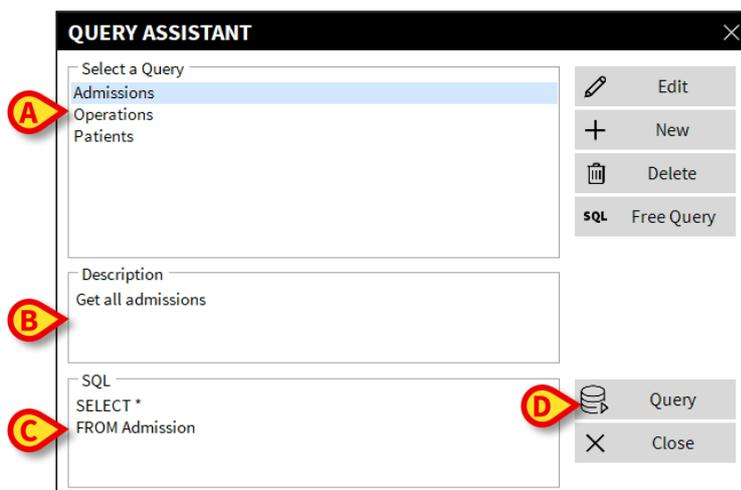

Fig 34
The name will be highlighted (Fig 34 **A**). A textual description of the query is displayed in the “Description” area (Fig 34 **B**).
The “SQL” area (indicated in Fig 34 **C**) displays the content of the query in SQL language (Structured Query Language).
- Click the **Query** button (Fig 34 **D** - bottom-right)